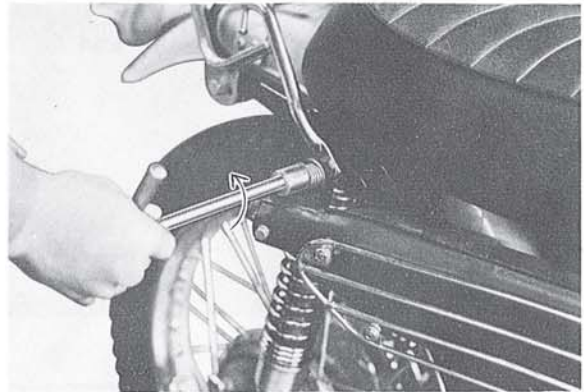

Fig. IV-1-4
- 2) Remove the muffler holding bolts. (Fig. IV-1-4)